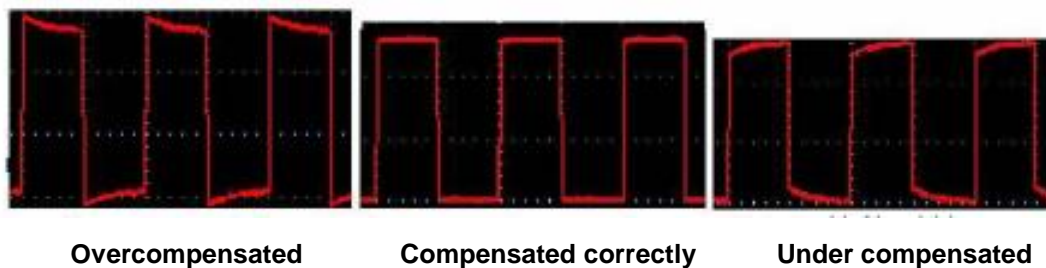
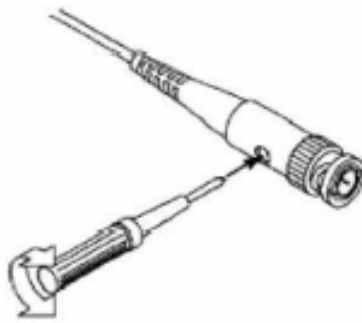

Fig. 8 Displayed Waveforms of the Probe Compensation
Fig. 9 Adjust Probe
2. Check the displayed waveforms and regulate the probe till a correct compensation is achieved (see Fig. 8 and Fig. 9).